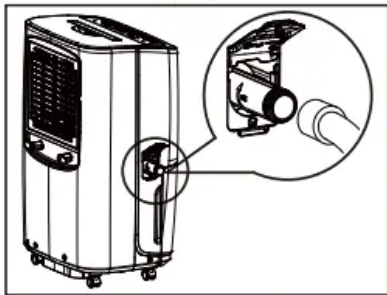

fig. 7
c. Screw the garden hose onto the threaded portion of the drainage adapter. (fig.7)